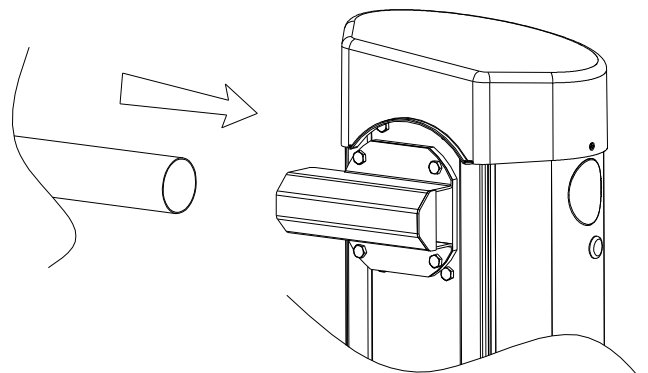

Fig. 6
- Insert the 80mm diameter bar, resting still on the back support, and screw down definitively the M8 screws (Fig.6).